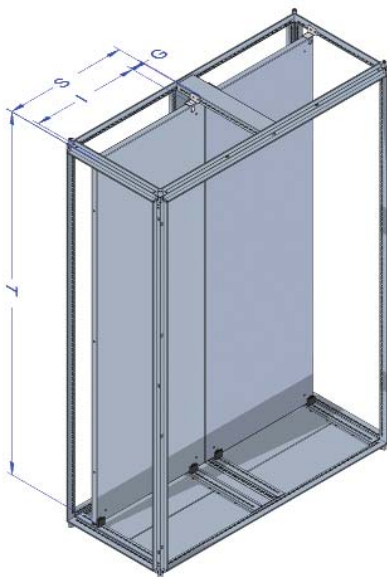

Fig. 16.3
- [\*] The plates are doubled and symmetric, therefore they refer to the situation shown in figure 16.3